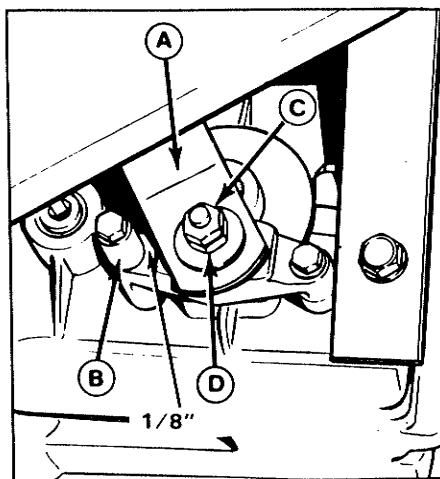
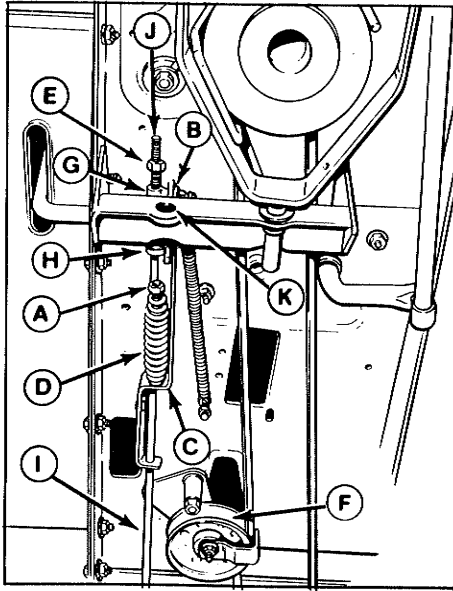

Figure 31. Parking Brake Adjustment
Figure 32. Brake-Clutch Adjustment
- Place the transmission in gear and release the parking brake. Move the brake rod (I, figure 32) back and forth to be sure there is no tension on the brake pads.
- Push the cam lever (A, figure 31) forward (toward front of tractor) to take out any slack. The gap between lever (A) and stop (B) should be 1/8 inch (0.3 mm). Use a feeler gauge to measure. If not 1/8 inch, perform step C.
- Loosen the locking nut (C). Tighten the adjusting nut (D) to decrease gap or loosen nut to increase gap. Recheck the measurement. When correct, tighten locking nut against adjusting nut.
The clutch-brake pedal must be in up position. With one hand, push rod guide (C, figure 32) as far forward as slot (B) will allow while pulling rod (I) back with other hand. With rod guide in this position, tighten or loosen nut (A) until 1/4 inch of clearance is obtained between nut and end of spring (D).
- With the pedal up, push the idler pulley (F, figure 32) firmly against the belt. With the pulley in this position, the gap between nut (E) and the rod guide (G) should be 7/8 to 1 inch (22 to 25 mm). If not, tighten nut (E) to decrease gap or loosen nut to increase gap. Recheck measurement.
- Depress and lock the clutch-brake pedal. Loosen the setscrew in the set collar (H). Move the collar against the spring which is located between collar (H) and rod guide (G). Be sure spring is seated as far as possible over rod guide (G). Push the collar
If tractor has a 3/4 inch diameter hole (K, figure 32) in bracket as shown, use the preceding tractor adjustments (for serial number 2536 and higher). If not, perform the following adjustments 1, 2, 3 and 4.
- Loosen the locking nut (C). Tighten the adjusting nut (D) to decrease gap or loosen nut to increase gap. Re-check the measurement. When correct tighten locking nut against adjusting nut.
The clutch-brake pedal must be in up position. With one hand, push rod guide (C, figure 32) as far forward as slot (B) will allow while pulling rod (I) back with other hand. With rod guide in this position, tighten nut (A) against spring until spring is snug but not compressed.
- a. With the pedal up, push the idler pulley (F, figure 32) firmly against the belt. With the pulley in this position, the gap between nut (E) and the rod guide (G) should be $9/16$ to $5/8$ inch (14 to 15 mm). If not tighten nut (E) to decrease gap or loosen nut to increase gap. Recheck the measurement.
- b. Depress and lock the clutch-brake pedal. Loosen the setscrew in the set collar (H). Move the collar against the spring which is located between collar (H) and rod guide (G). Be sure spring is seated as far as possible over rod guide (G). Push the collar $7/16$ to $9/16$ inch farther to compress the spring and tighten the setscrew. (When moving the set collar be careful not to move the rod.)